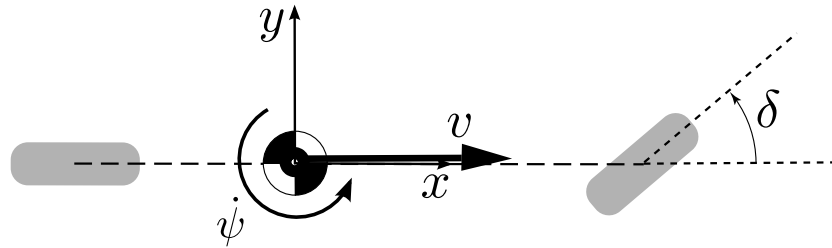

Figure 5: Bicycle model defining steering angle  $\delta$  (drawn in positive direction after “ISO 8855” coordinate system  $\Rightarrow$  z up) and speed  $v$ .
- DE7.3.15 [DV ONLY] Beside RES messages (see DE7.4.8), the messages defined in Table 8 must be provided to the data logger with a cycle time of 100 ms each. Steering angle  $\delta$  and vehicle coordinate system is defined in Figure 5.